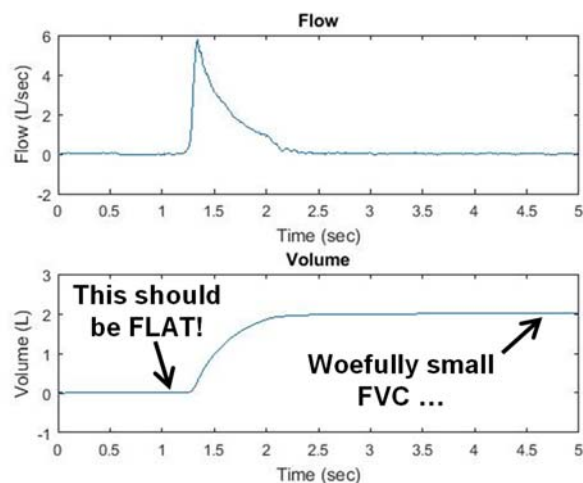

Fig. 6: The proper value of **Vref** will cause the volume curve to be ZERO and FLAT before the FEM occurs.
- Re-run your data processing MATLAB code as many times as needed to make the **Volume** plot be ZERO and FLAT before the FEM occurs (see Fig. 6).